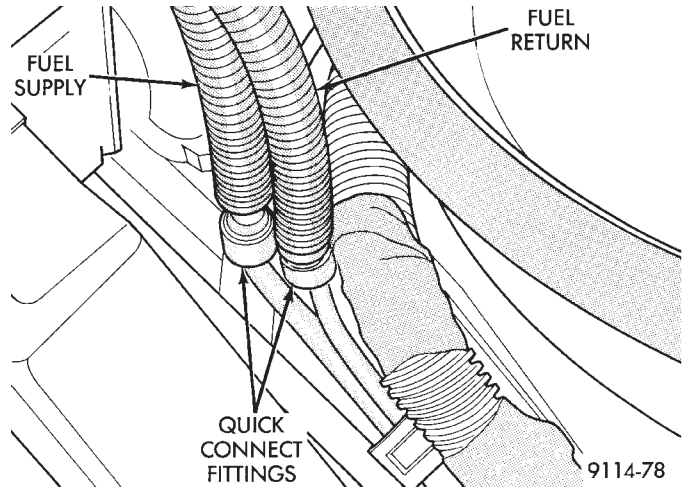

Fig. 7 Quick Connect Fittings
- (3) Remove quick connect fittings from the chassis fuel tubes (Fig. 7). Refer to Quick Connect Fittings in the Fuel Delivery Section of this manual.